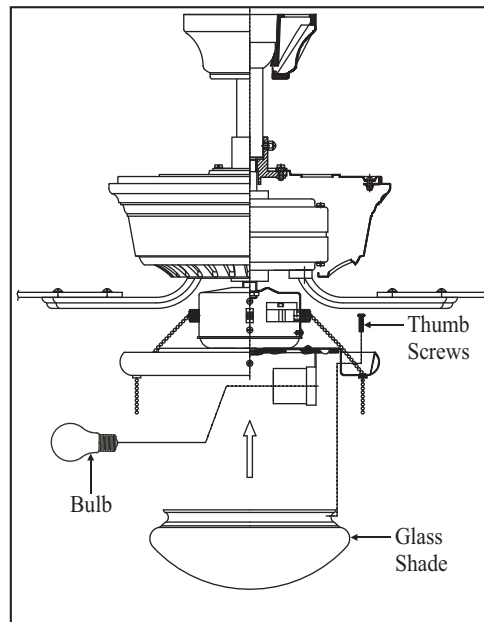

Figure 21
3. Install 60 watt (Max.) medium base bulb (not included). (Fig. 21)
4. Mount the glass shade to the light fixture by unscrewing partway the thumbscrews on the glass holder, insert the glass, then gently tighten the thumbscrews by hand evenly to the glass. **DO NOT OVER TIGHTEN.** (Fig. 21)